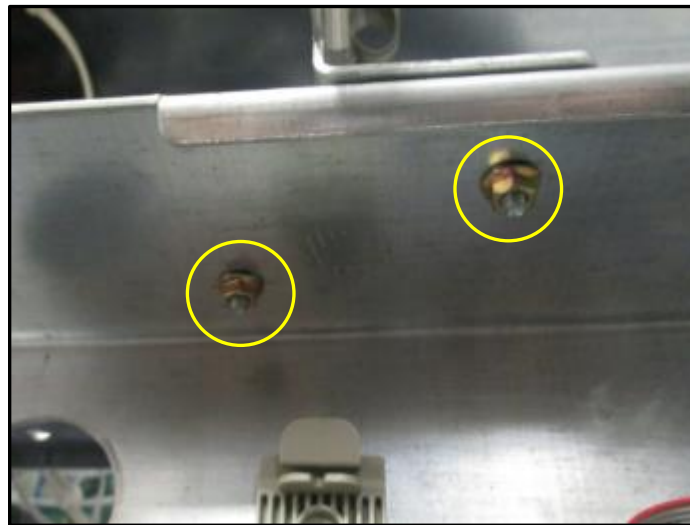

Fig 1.20 – Location of CRIND Control Bracket nuts
- 25.** Remove and discard the three 9/32" nuts that are fastening the CRIND Control Bracket to the upper electronics rail in the electronics cavity. (Fig 1.20)